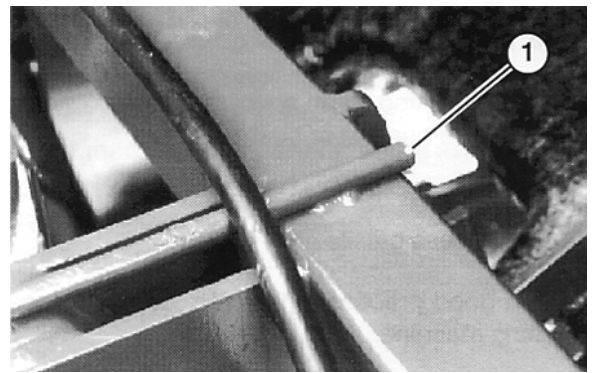

Figure 12
3. Make sure end of gear case vent tube is open and clean (Fig. 12).